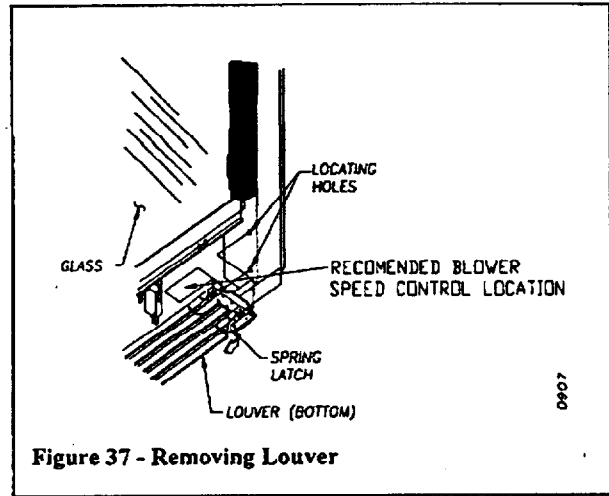
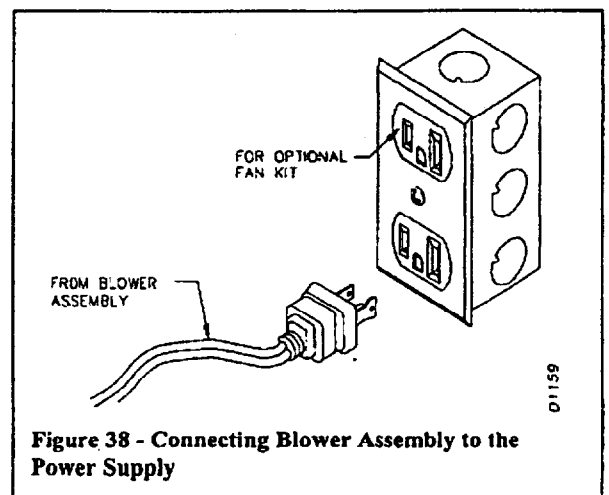

Figure 37 - Removing Louver
Figure 38 - Connecting Blower Assembly to the Power Supply
1. To remove the lower louvers simultaneously pull both top end spring latches towards the center of the appliance until they are disengaged from the locating holes. Repeat for the bottom spring latches and pull the louvers outward (see Figure 37).
An outlet box with two receptacles has been provided for your convenience and is located on the lower right side of the appliance (see Figure 38). The variable speed controller is mounted on a magnetic base and may be positioned anywhere within an accessible distance behind the louvered opening (see Figure 37).
1. Remove lower louver access panel from fireplace (see Figure 37 on page 15).